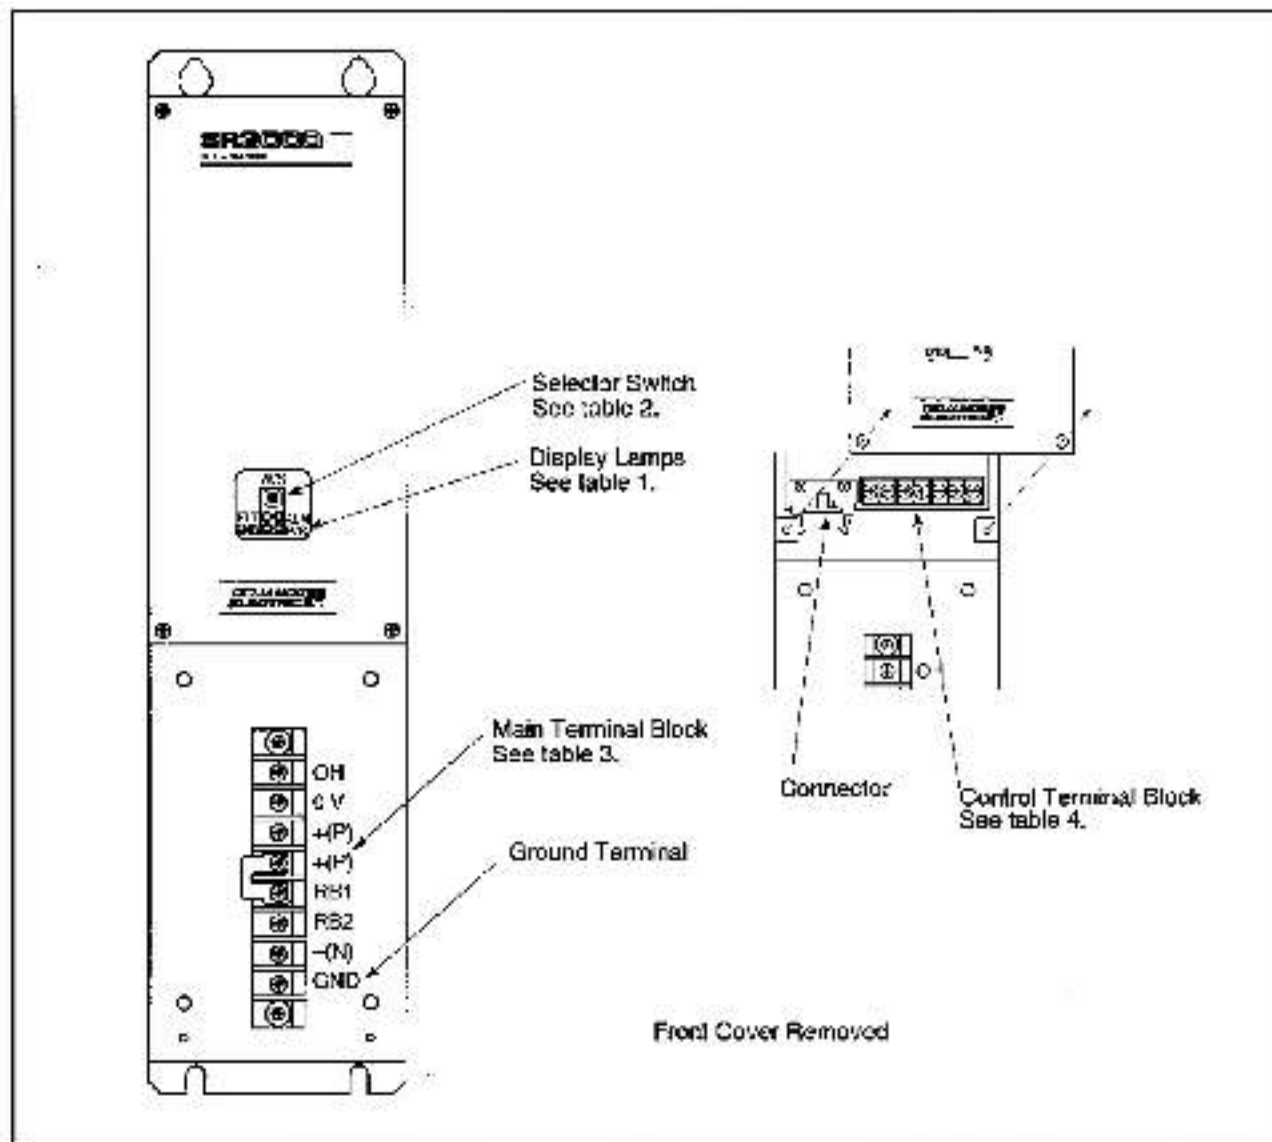

Figure 2 - Front Panel of the SR3000 Snubber Resistor Braking Unit
Overload protection of the snubber resistor is provided via the terminal strip I/O on the faceplate for connection to a user-supplied protection circuit and by the status LEDs. If an overload fault occurs, the Braking Unit will shut down. Figure 2 shows the faceplate of the Braking Unit with the terminal strip cover removed. Refer to table 1 for a description of the LEDs.
- Run a suitable equipment grounding conductor unbroken from the Braking Unit ground terminal to the earth ground. See figure 2 for the location of the Braking Unit ground terminal.